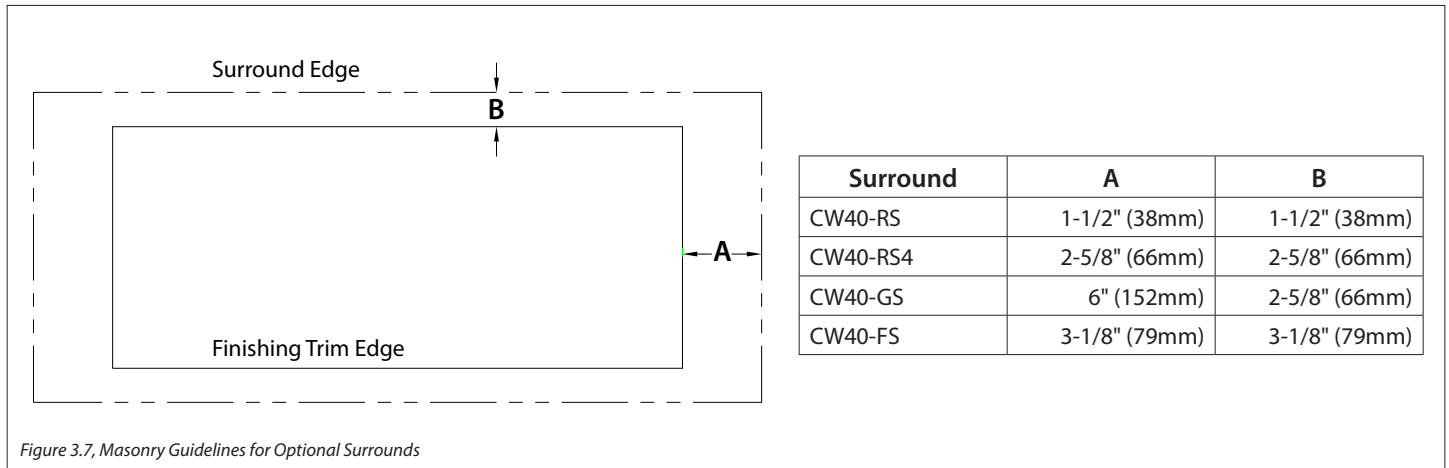

Figure 3.7, Masonry Guidelines for Optional Surrounds
- Figure 3.7 shows where to end masonry finishing materials, when measuring from the finishing edge, to allow installation of any optional surround. Most masonry material will not fit behind the optional surround(s) when it is installed.